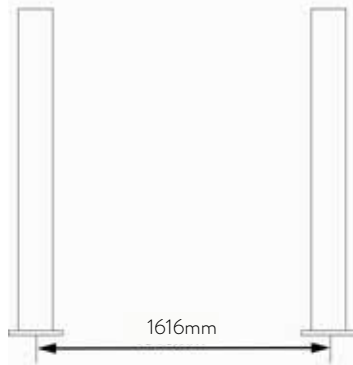

Figure 1
- 1 Push the wires down to determine the depth and position of the inner metal surface mount post kit (HLPM-068-2) (control span is 1616mm). As shown in Figure 1: